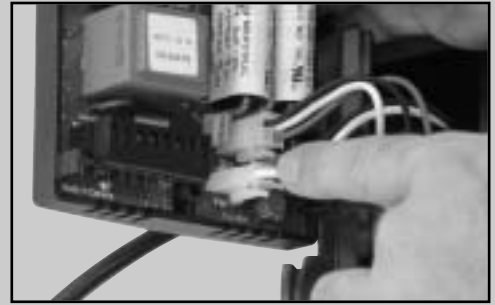

Figure 2-6
7. Disconnect the variable speed pump control wires (three pin molex connector) from the control panel circuit board (bottom connection). Press the tab on the plastic hook on the plug to release the plug from the base. The plug should release easily from the base. Do not force the plug from the base as it can damage the connection. (See Figure 2-6.)